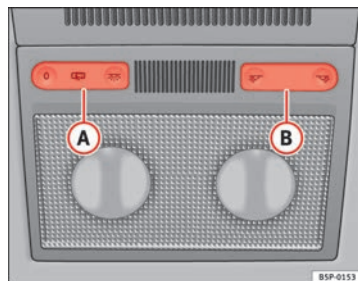
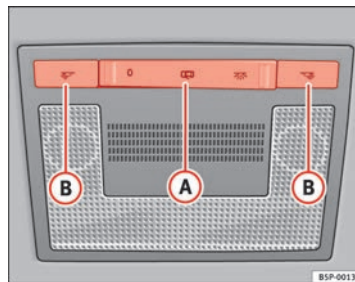

Fig. 79 Interior roof trim:
Fig. 80 Interior roof trim:
Press the corresponding button ⇒ fig. 79 (B) and ⇒ fig. 80 (B) to switch on the reading light.